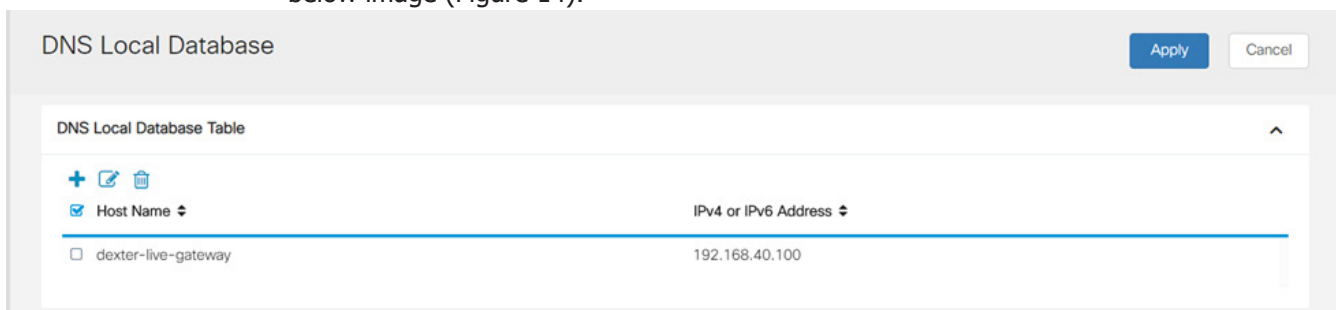

Figure 14
- e. The page will then show the entry in the DNS Local Database Table, as shown in the below image (Figure 14).